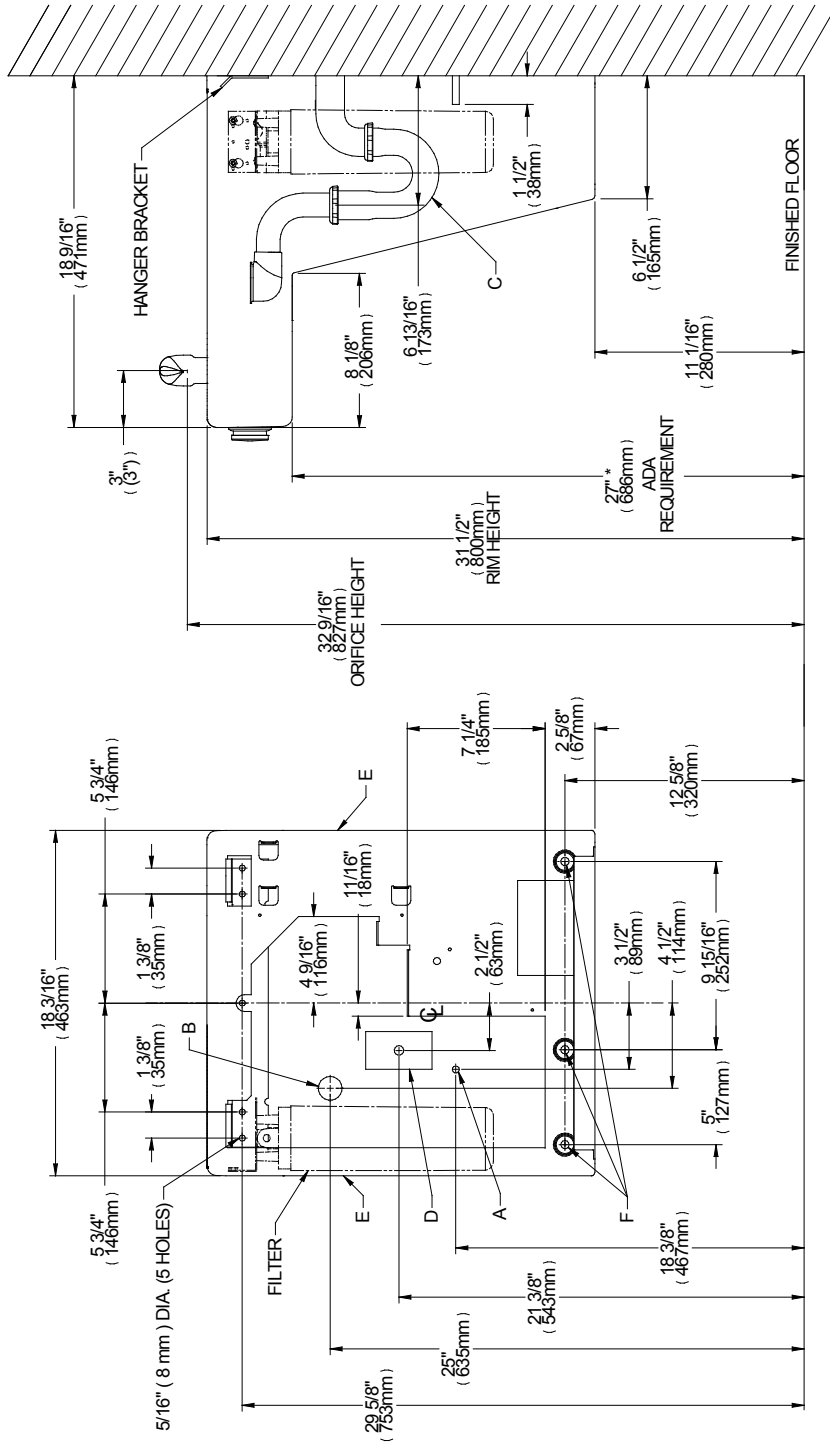

Fig. 2
- 1) Remove hanger bracket fastened to back of cooler by removing one (1) screw.
- 2) Mount the hanger bracket and trap as shown in Figure 2.
- 4) Hang the cooler on the hanger bracket. Be certain the hanger bracket is engaged properly in the slots on the cooler back as shown in Figure 2.
- 5) Loosen the two (2) screws holding the lower front panel at the bottom of cooler base (**Use torx bits sold separately**). Remove the front panel and set aside.
- 7) Remove the slip nut and gasket from the trap and install them on the cooler waste line making sure that the end of the waste line fits into the trap. Assemble the slip nut and gasket to the trap and tighten securely. Recommend fastening cooler to wall using 5/16" bolt holes. (see fig.2, "F")